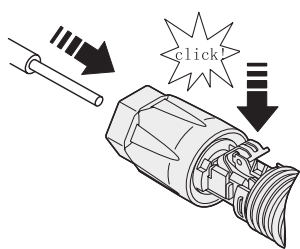

Fig. 47. Inserting the DC cable into the battery connector.
4. Insert the stripped DC cable far enough into the battery connector and change the retaining bracket to make sure it is locked tightly to the stripped cable, as shown in Fig. 47.